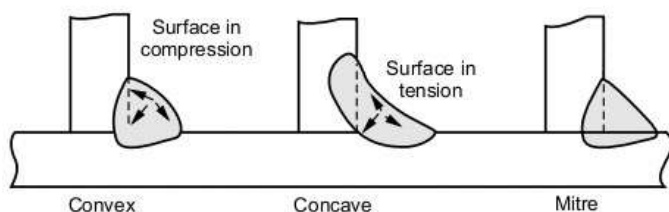

Fig. Q.22.1 Different types of fillet weld
- Different types of fillet welds are shown in Fig. Q.22.1.